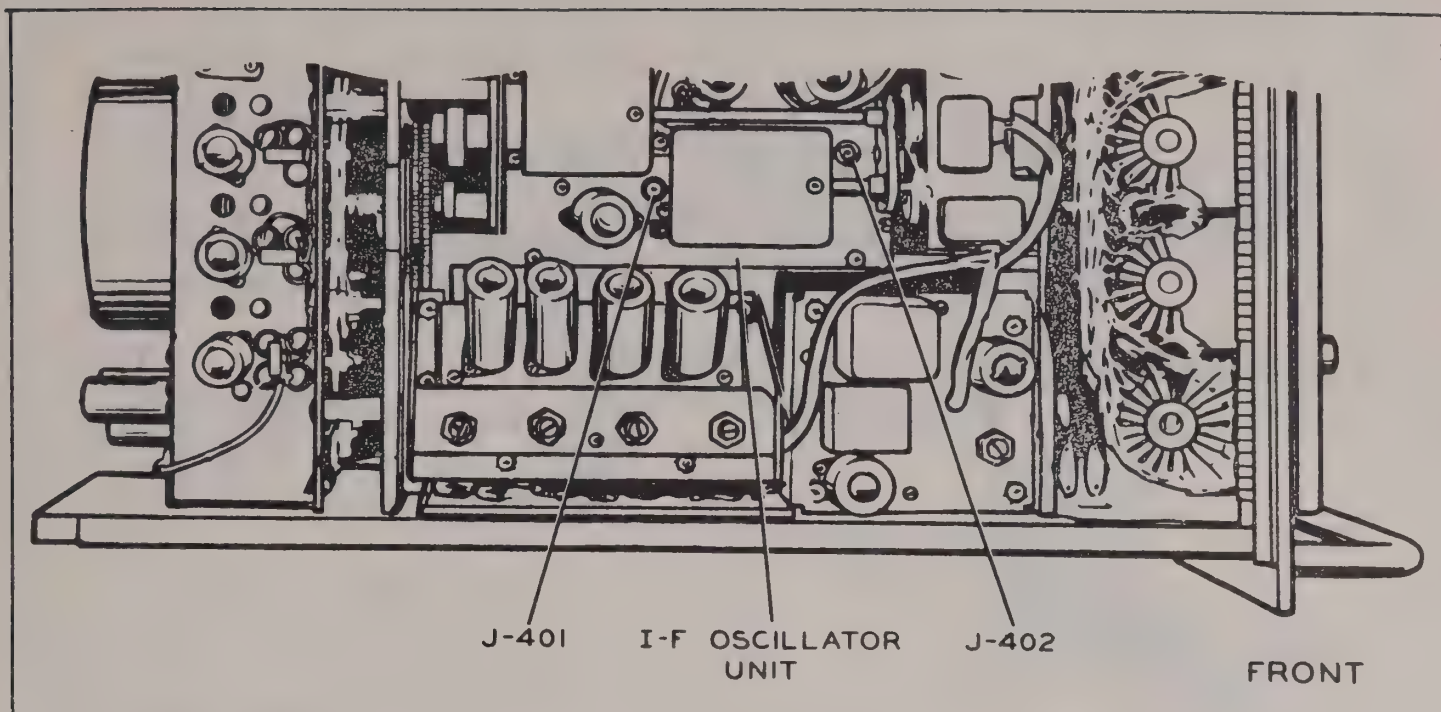

Figure 3-1 Radio Transmitter T-217A/GR, Partial Top View, Cover Removed
(19) Disconnect the VTVM DC probe from J-401 and connect it to J-402 on the I-F Oscillator Unit. Refer to Figure 3-1.
(20) Set the RANGE switch on the VTVM to the 10 V position and zero the meter.
(21) Leave the three numbered CHANNEL switches at 220.9 mc.